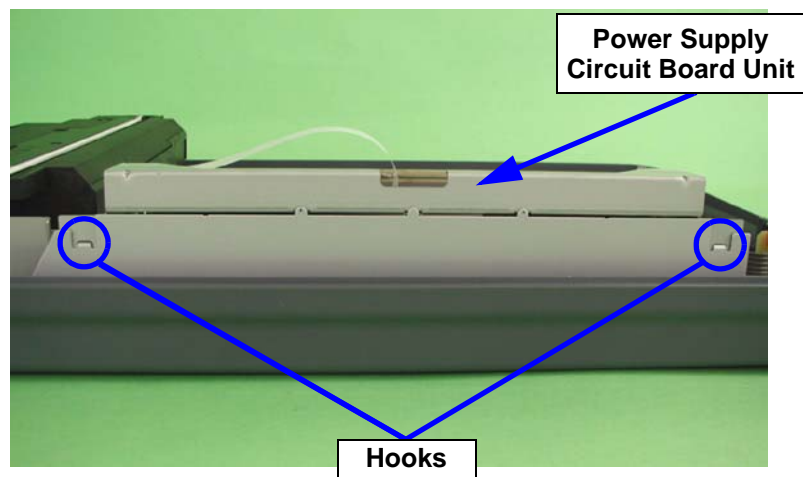

Figure 4-31. Power Supply Circuit Board Removal (2)
5. Disengage the two hooks at the side of the scanner, and then remove the power supply circuit board unit. (See Figure 4-31)